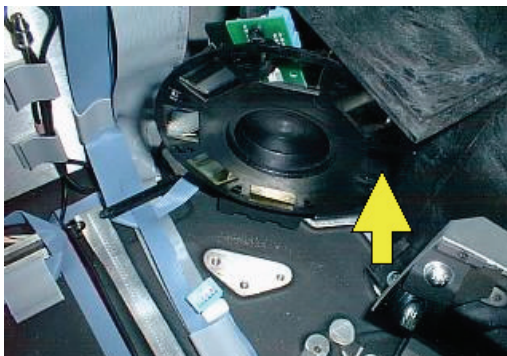

Figure 81 Viewing the emission slit
11. Open the central optical cover inside the LS 55 and observe the emission entrance slit through the open position of the emission filter wheel, as shown in Figure 81.